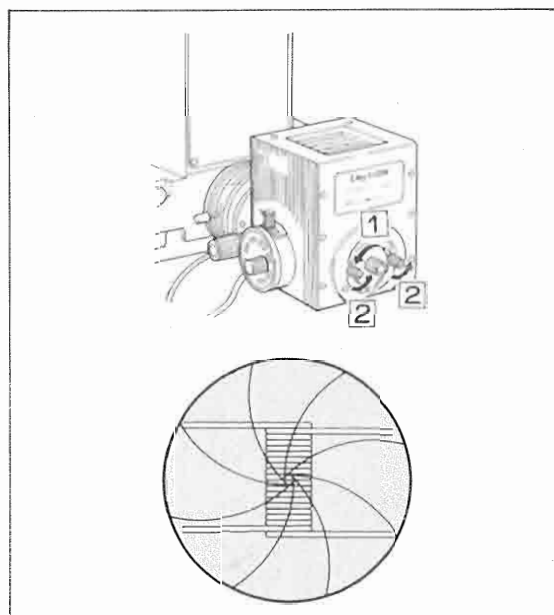

Fig. 45
- (8) Adjust the two rear mirror centering screws (Fig. 45-2) to superimpose the reflected filament image on the direct filament image, as shown in Fig. 45.